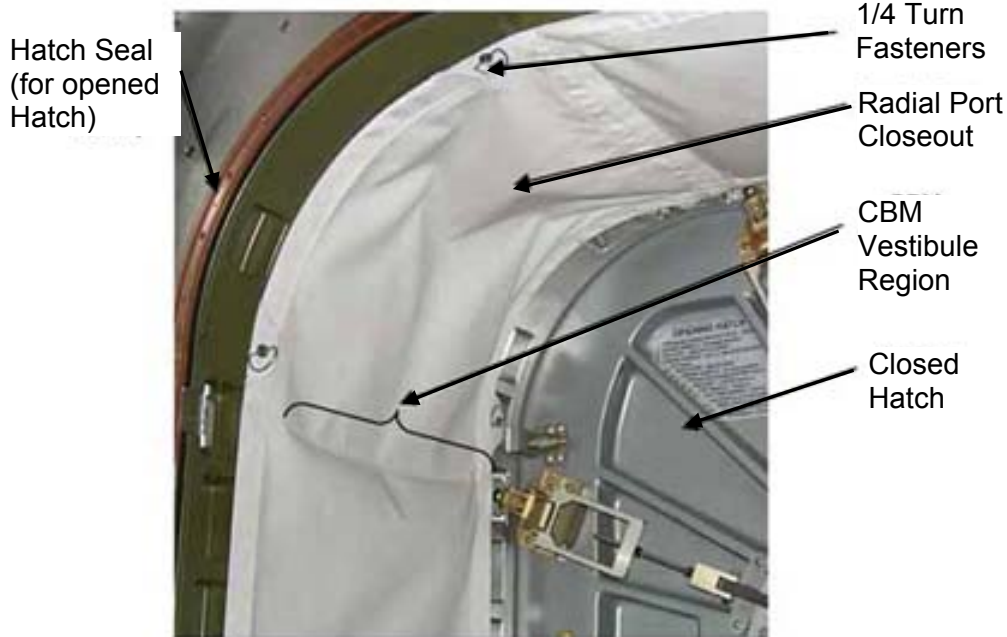

Figure 5.- Installation of Radial Port Closeout.
- 7.1 Unroll Radial Port Closeout while installing over CBM Vestibule. Attach 1/4 Turn Fasteners starting at overhead forward corner, insert into mounting brackets, engage 1/4 Turn Fasteners. Refer to Figure 5.